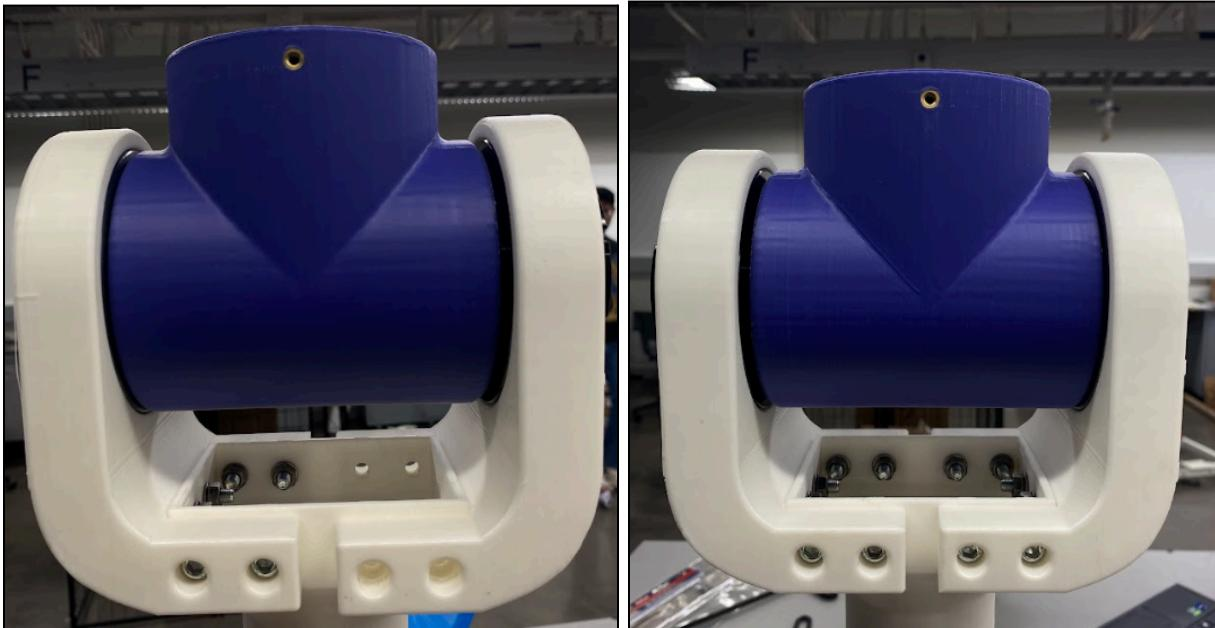

Figure 32: J3 Motor Holder to Bicep
- Perform the same procedure for fastening the J3 Bearing holder into the Bicep, see Figure 32.